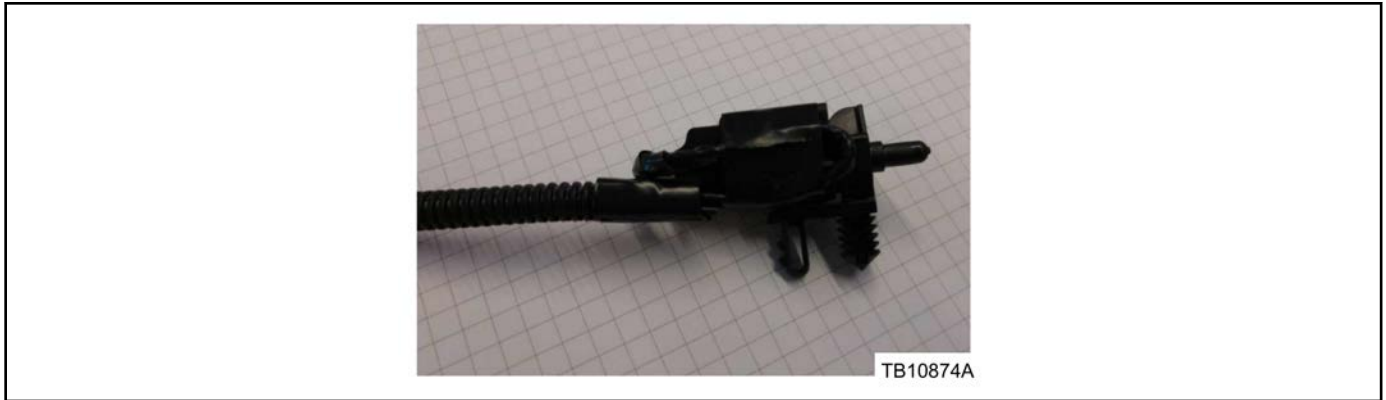

Figure 3 - Article 16-0054
- i. Using Rotunda Coroplast™ electrical wire harness tape or equivalent electrical tape, tape under the convolute first and leave 10 mm (3/8") of the tape beyond the convolute, then tape over the convolute starting at the end nearest to the connector back to the harness. (Figure 3)